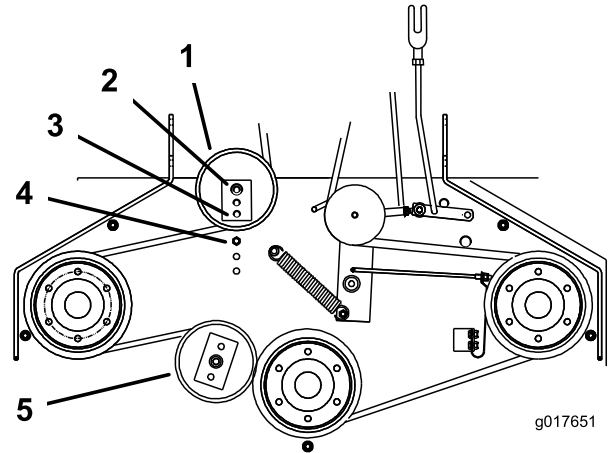

Figure 46
positioned to the middle or front hole (Figure 46). Use the hole that will give the correct adjustment.
7. When you move the idler pulley, you must move the belt guide. Move the belt guide to the front position (Figure 46).